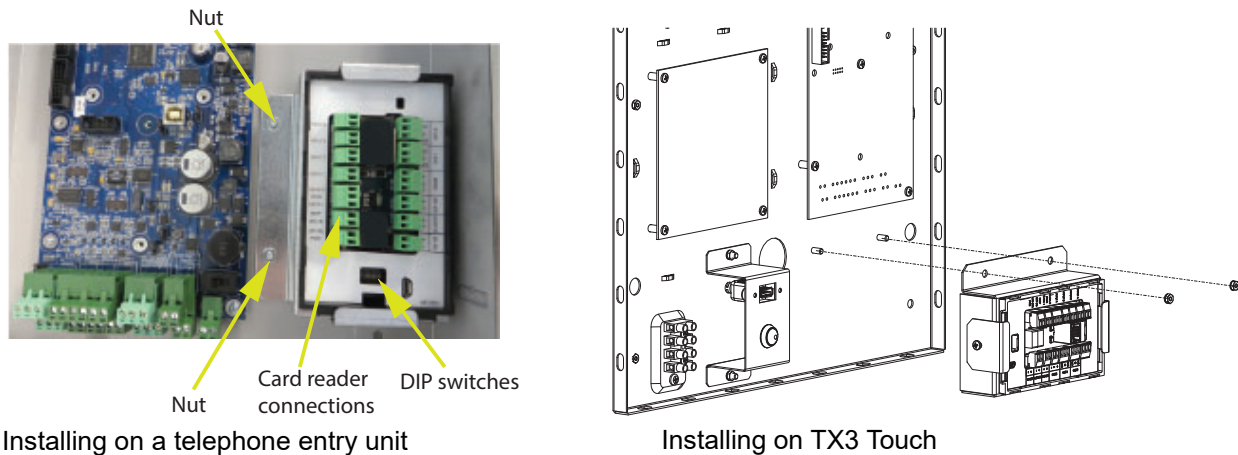

Figure 1 Mount TX3-CX-1NP-256
1. Mount TX3-CX-1NP-256 on the two posts as shown in Figure 1.
- Use DIP switches 1-6 (shown in Figure 1) to set the RS-485 network address.